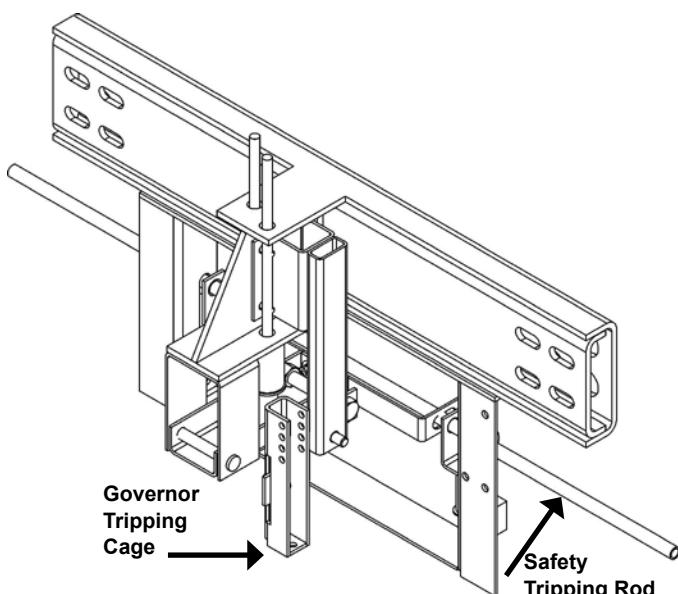

Figure 64 Lifting Bracket
- 9) Feed the governor cable through the small hole in the bottom of the governor tripping cage. Refer to Figure 64. Continue feeding the entire cable until you reach the swaged button on the end.